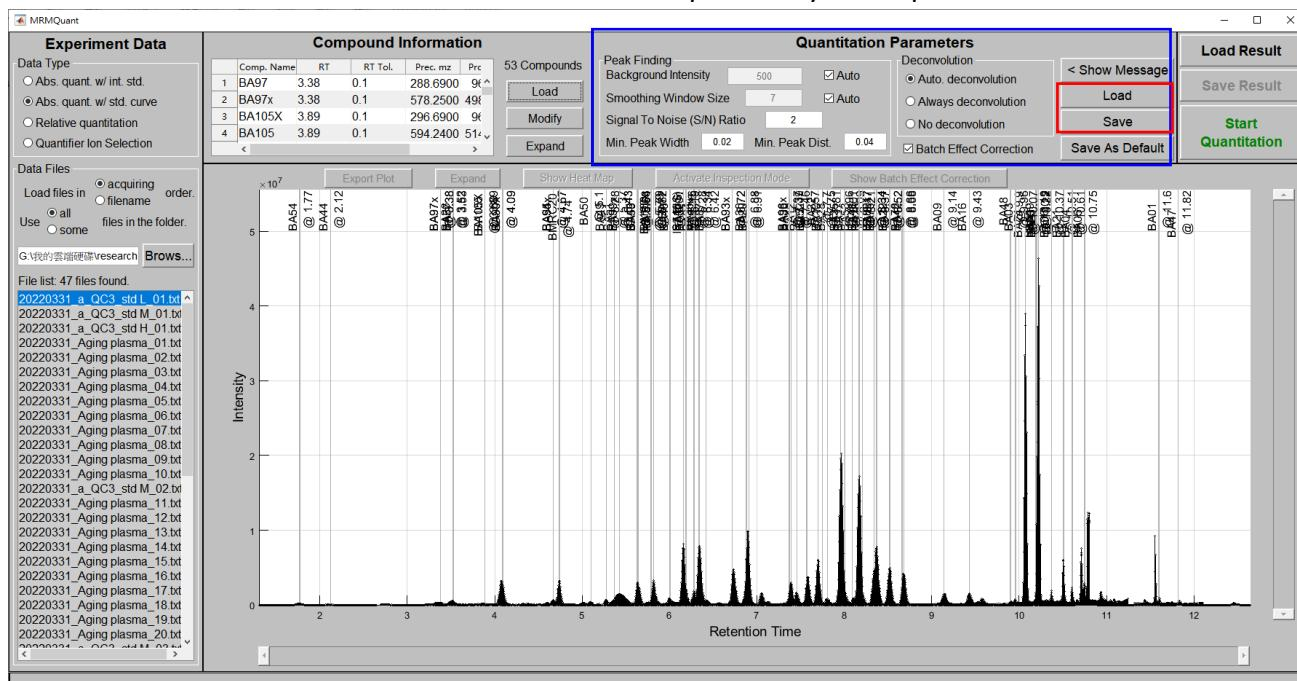
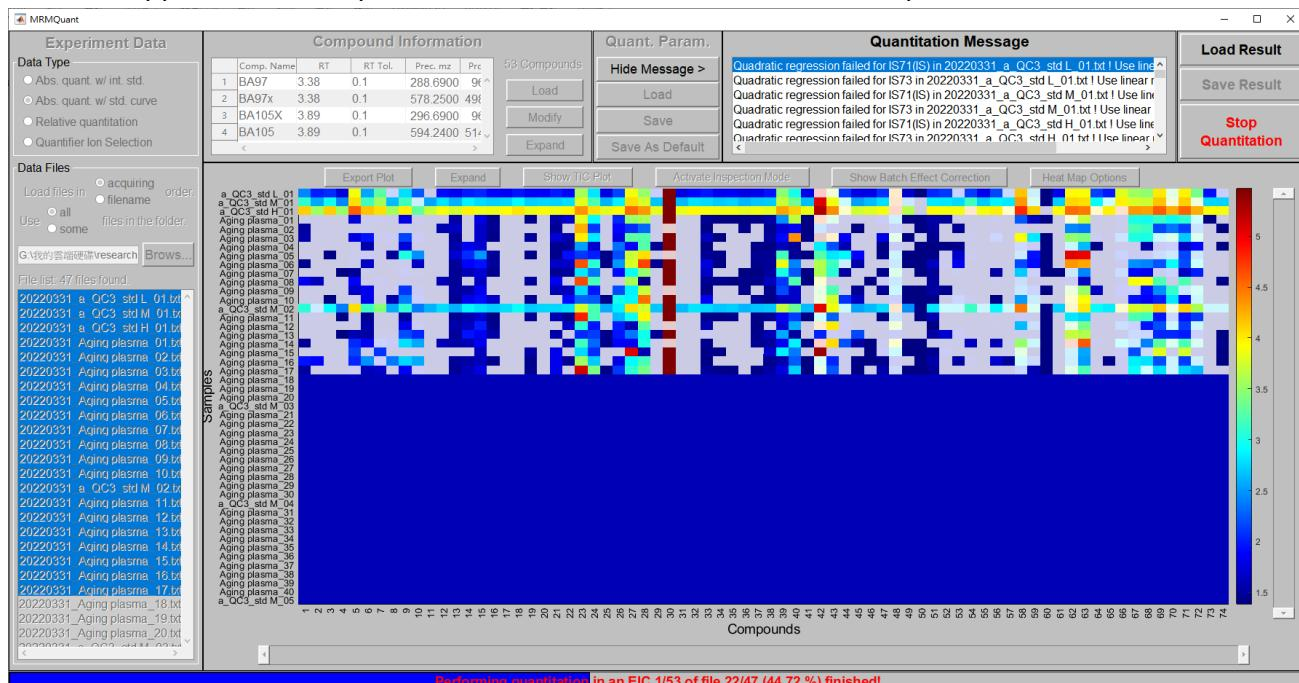

Figure 10. The “Quantitation Parameters” panel for users to adjust parameters at different stages of quantitation
Figure 11. The heatmap and the progress bar during the quantitation process.
**5 Adjust quantitation parameters:** After the method file is loaded, the "Quantitation Parameters" panel will be activated, as shown in Figure 10. Parameters related to three major tasks in quantitation, including peak finding, deconvolution, and batch effect correction, are to be determined. For peak finding, users can adjust parameters such as background intensity (click on "auto" if it is to be determined by the system's build-in method), signal-to-noise (S/N) ratio, and the minimum peak width and minimum peak distance for coelution determination. For deconvolution, users can select automatic deconvolution, always deconvolution, or no deconvolution when a coeluted peak related to the targeted compound is found. Finally, users should determine whether to perform batch effect correction or not based on whether multiple batches of samples are used and whether QC samples are included in each batch. After modification of the parameters, users can choose to save the modifications as a file for future use by clicking on the "Save" button at the bottom. The modifications can also be saved as default settings by clicking on the "Save As Default" button so they will be used when the system starts. Users can also click on the "Load" button to use previously saved parameters.
**6 Start the quantitation:** Once all the parameters are assigned, users can click on the green “**Start Quantitation**” button on the left of the “Quantitation Parameters” panel, as indicated by the red block in Figure 10. During the quantitation process, the TIC plot will change to a heatmap showing the quantitation result. The heatmap will be updated once the quantitation is finished for a sample file. In addition, the corresponding sample file in the Data File section will be marked in blue and a progress bar will be shown at the bottom of the window, as shown in Figure 11. Also, the green “**Start Quantitation**” button will turn red and show “**Stop quantitation**” during the